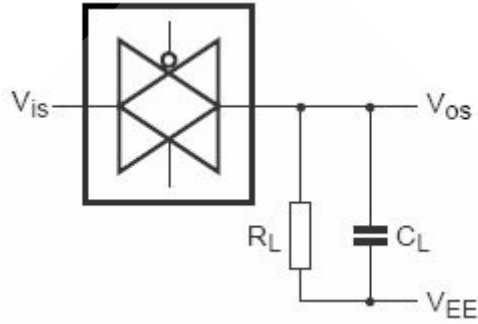

图7、方波失真度、关断频率和导通频率测试图
- $R_L = 1\text{ k}\Omega$; $C_L = 5\text{ pF}$, 通道关断, $20\log V_{OS}/V_{is} = -50\text{ dB}$, 见图7
- $R_L = 1\text{ k}\Omega$; $C_L = 5\text{ pF}$, 通道开, $20\log V_{OS}/V_{is} = -3\text{ dB}$, 见图7